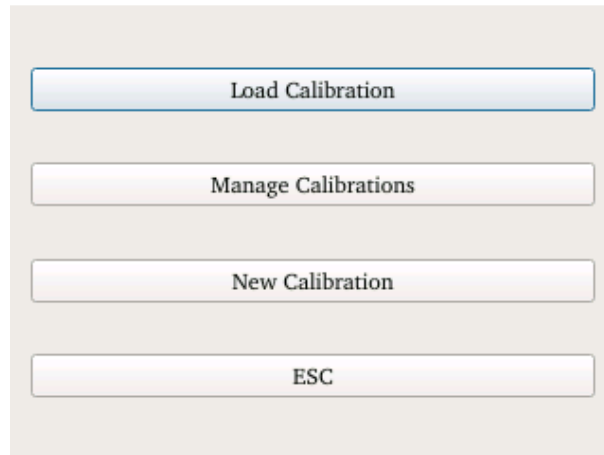

Figure 12: Menu Calibration
- Open: load the selected calibration file (it is equal to “Load Calibration” see Figure 12)